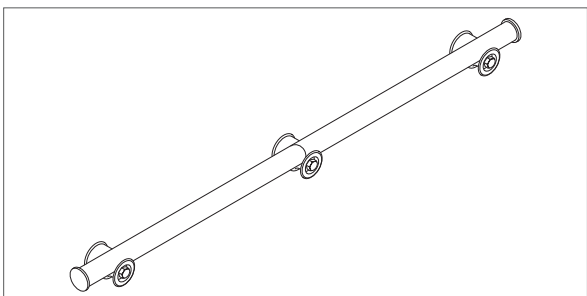

Figure 3
3. When installing the tube track, rotate the track so the set screws are facing the wall. For maximum strength, ensure a track support is supporting spliced sections (Figure 3).